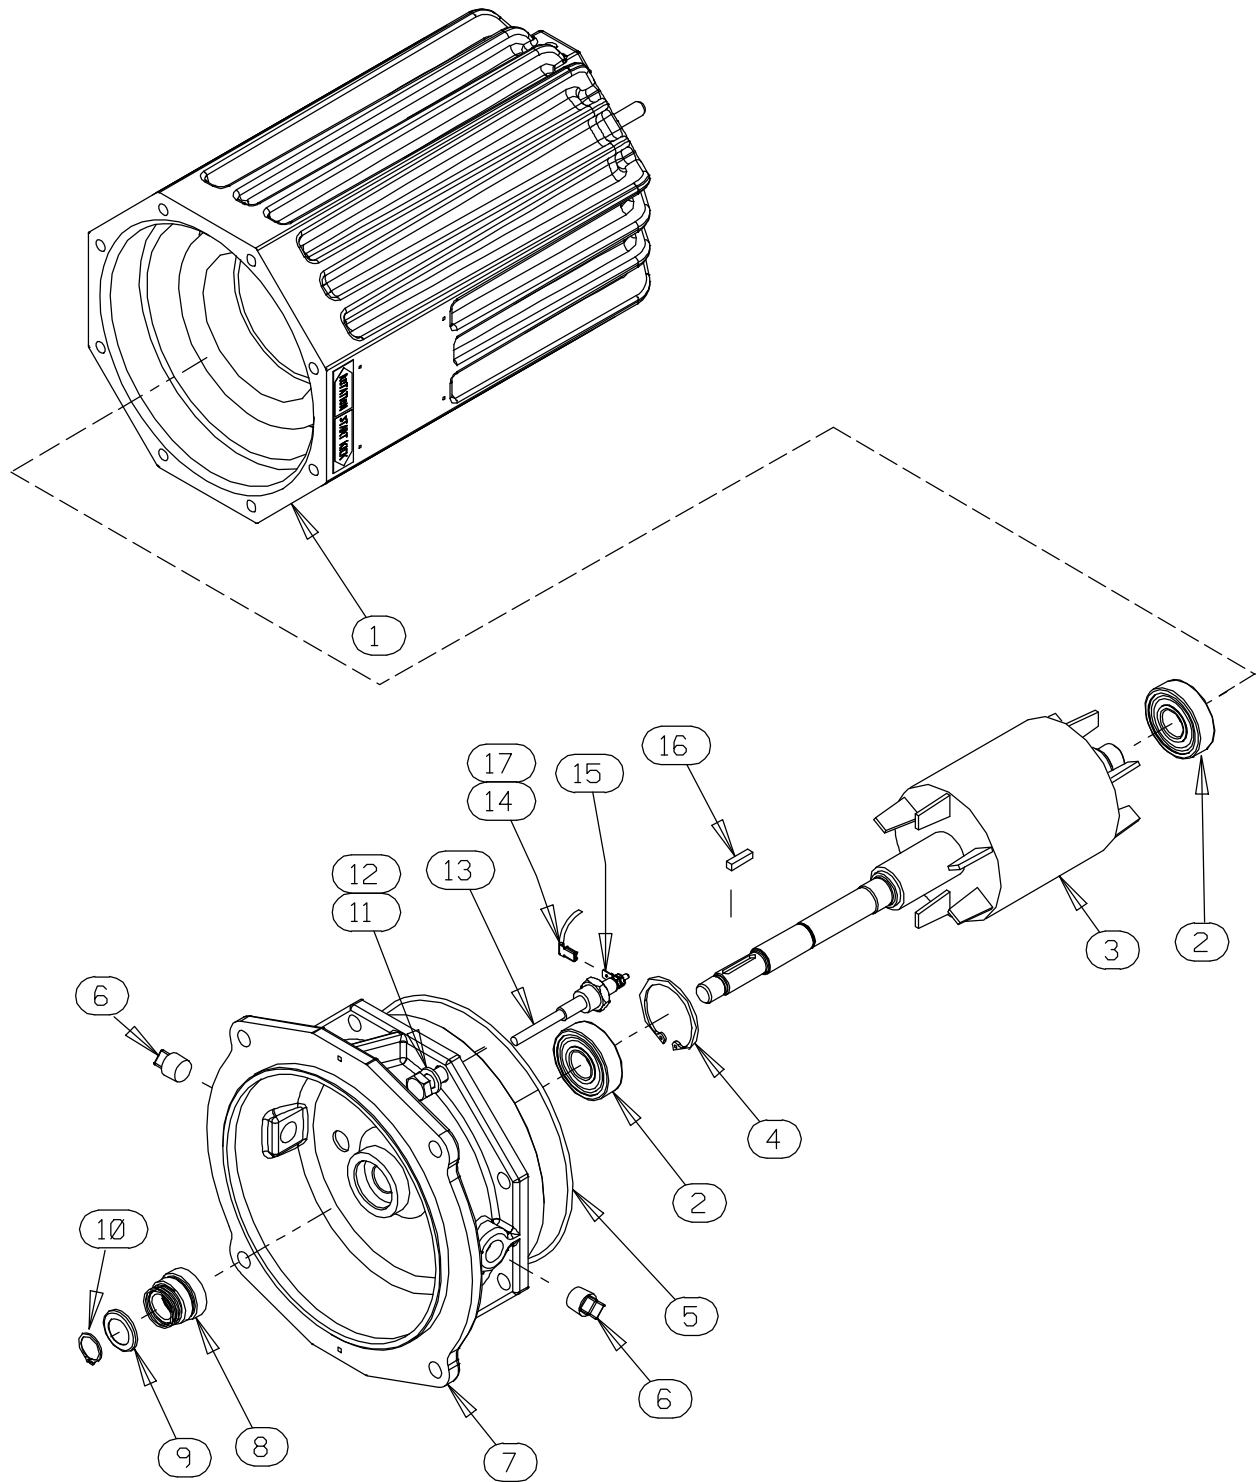

Figure E-2. Motor Assemblies
(Figure E-2)
To remove the impeller, use two thin-bladed screwdrivers positioned 180° apart to pry on the back of the impeller and “walk” the impeller off the shaft. Use increasingly larger screwdrivers (or wedges) as necessary. After the impeller comes free of the shaft, retain the impeller key (16, Figure E-2).
An alternate method of removing the stationary element is to remove the screws (16) securing the seal plate (14) to the motor assembly (7). Pry the assembled seal plate and stationary element off the shoulder of the intermediate (7, Figure E-2). Remove the O-ring (6) and press the stationary element and seat out of the seal plate from the back side.
Upper Seal Removal (Figures E-2 and E-3)